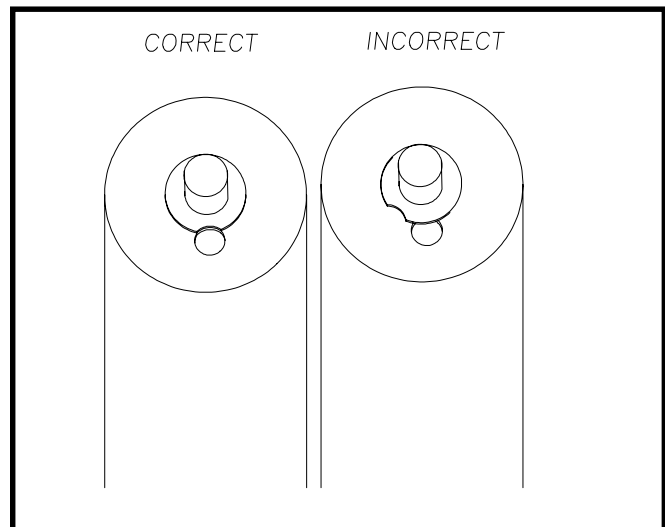

Figure 27
10. Rotate the agitator tube clockwise until the guide hole at the top of the agitator tube forms a complete circle with the hole at the top of the vertical center post (Fig.27).